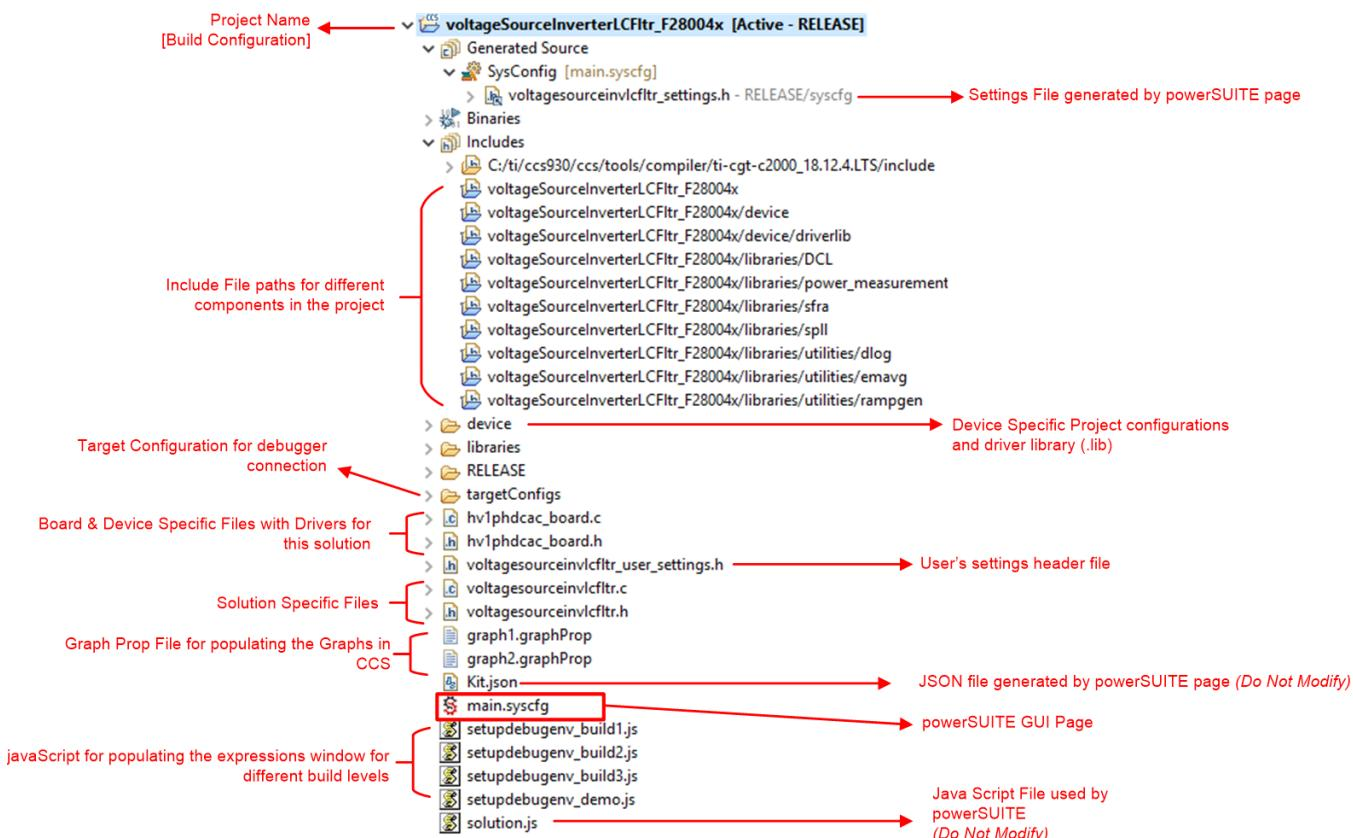

図 20. Project Explorer View of the Solution Project
Once the project is imported, the project explorer appears inside CCS, as shown in 図 20.
注: 図 20 shows the project for TMS320F2837x; however, if a different device is chosen from the powerSUITE page, the structure will be similar.
The *Kit.json* and *solution.js* files are used internally by powerSUITE and must also not be modified by the user. Any changes to these files result in project not functioning properly. 図 20 shows the project explorer view of the solution project.
3. In the *Project Explorer*, make sure the correct target configuration file is set as *Active*, as shown in 図 20.